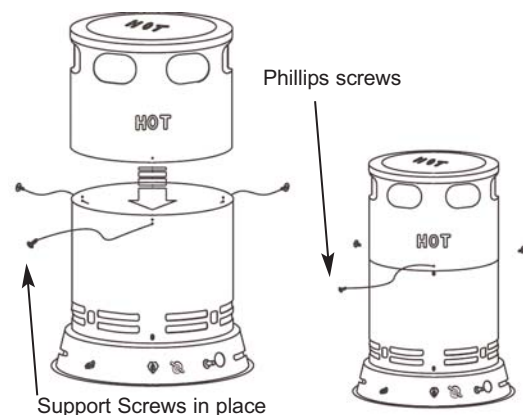

Figure 3: Assembly screw placement
- Attach 4 (four) of the phillips head screws to the bottom row of holes in the lower housing (see Figure 3).